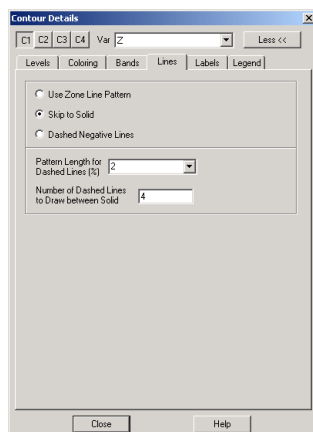

Figure 10-12. The Lines page of the Contour Details dialog.
3. Go to the Lines page of the Contour Details dialog, as shown in Figure 10-12.